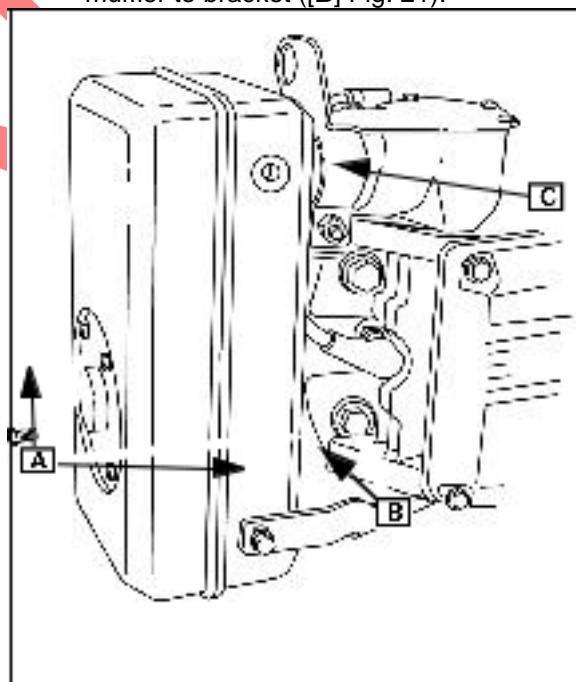

Fig. 21
Remove the two lower bolts (A) that hold muffler to bracket ([B] Fig. 21).
Loosen muffler clamp nut ([C] Fig. 21) and spread clamp slightly with screwdriver.